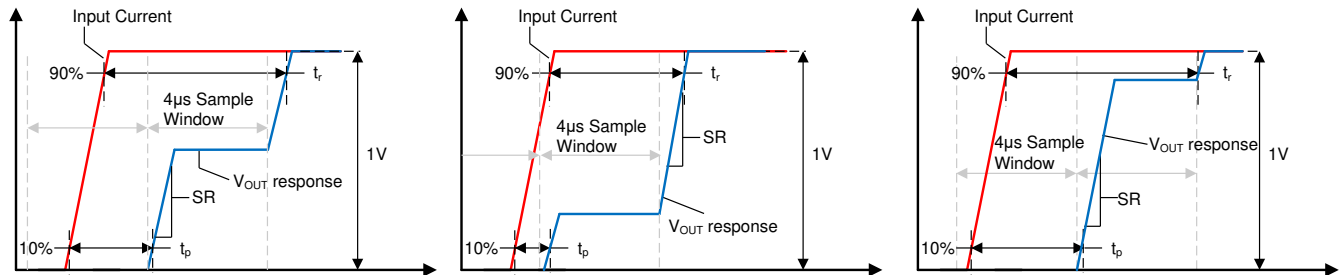

图 8-3. Small Current Input Step Transient Response
Slew rate (SR) is defined as the V_{OUT} rate of change for a single integration step's output transition, as shown in 图 8-3. Because the device often requires two sampling windows to reach a full 90% settling of its final value, this slew rate is not equal to the 10%-90% transition time for the full output swing.
Propagation delay is the time period between the input current waveform reaching 10% of its final value and V_{OUT} reaching 10% of its final value. This propagation delay is heavily dependent upon the alignment of the input current step and the sampling period of the TMCS1100, as shown for several different sampling window cases in 图 8-3.
Response time is the time period between the input current reaching 90% of its final value and the output reaching 90% of its final value, for an input current step sufficient to cause a 1-V transition on the output. 图 8-3 shows the response time of the TMCS1100 under three different time cases. Unless a step input occurs directly during the beginning of one sampling interval the response time will include two sampling intervals.